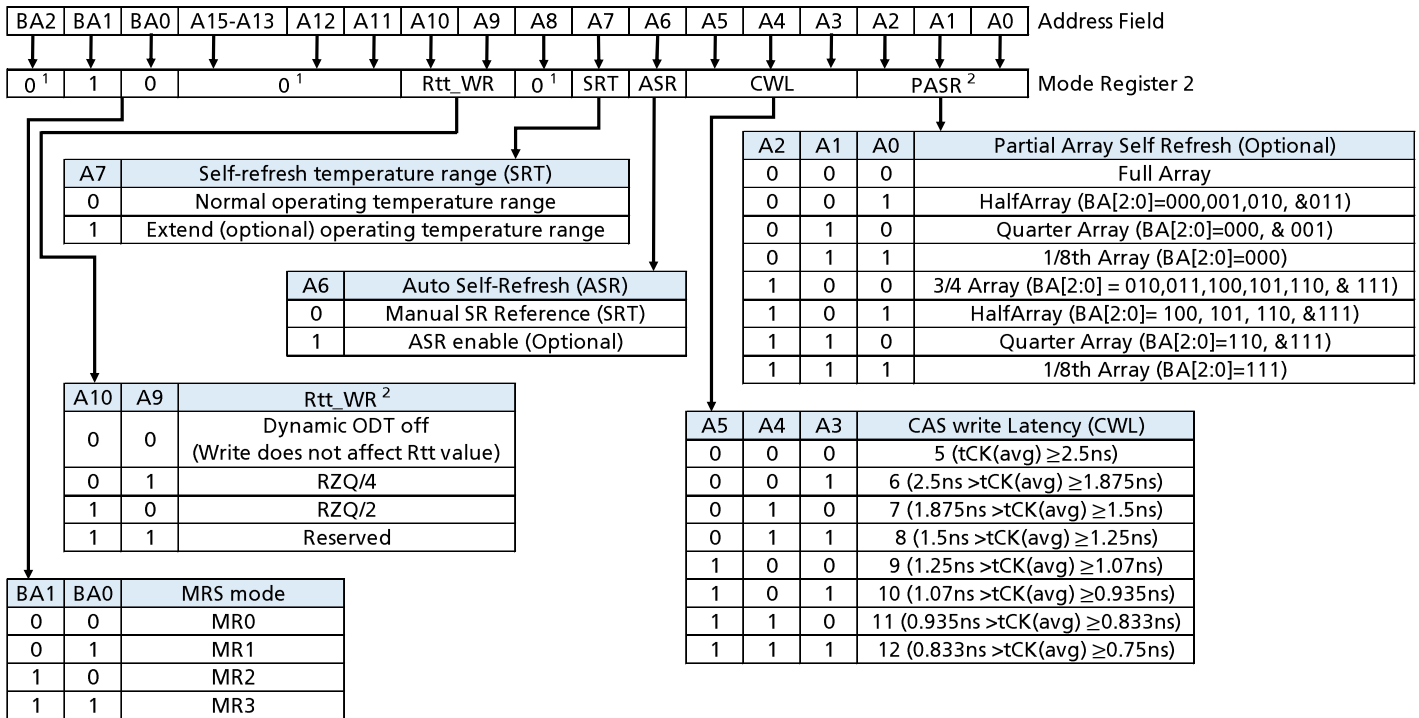

Figure 10 - MR2 Definition
Optional in DDR3 SDRAM: Users should refer to the DRAM supplier data sheet and/or the DIMM SPD to determine if DDR3 SDRAM devices support the following options or requirements referred to in this material. If PASR (Partial Array Self-Refresh) is enabled, data located in areas of the array beyond the specified address range shown in Figure 10 will be lost if Self-Refresh is entered. Data integrity will be maintained if tREFI conditions are met and no Self-Refresh command is issued.
The CAS Write Latency is defined by MR2 (bits A3-A5), as shown in Figure 10. CAS Write Latency is the delay, in clock cycles, between the internal Write command and the availability of the first bit of input data. DDR3 SDRAM does not support any half-clock latencies. The overall Write Latency (WL) is defined as Additive Latency (AL) + CAS Write Latency (CWL); WL = AL + CWL. For more information on the supported CWL and AL settings based on the operating clock frequency, refer to "Standard Speed Bins". For detailed Write operation refer to "WRITE Operation".